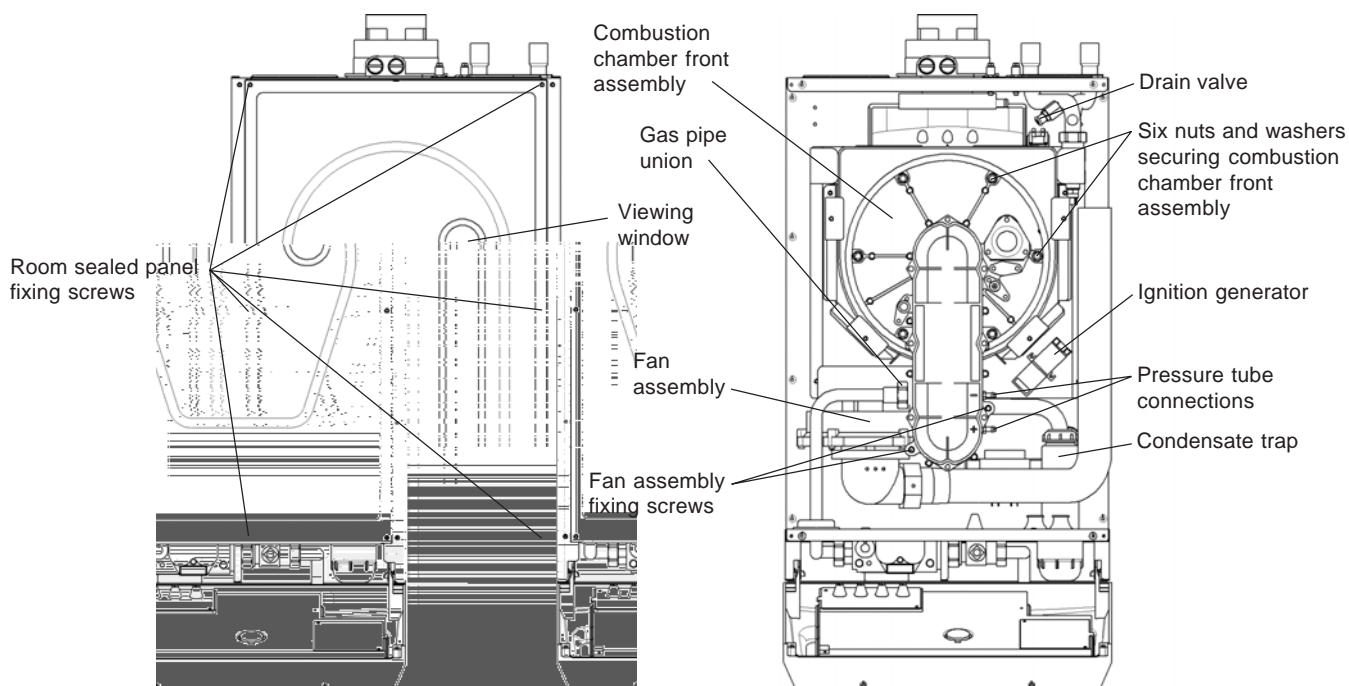

Fig. 25
7.2 PREPARE FOR SERVICING - Fig. 25
8.1 GENERAL ACCESS - Fig. 25
2. Gain access as described in Section 8.1. Connect a hose to the drain valve located in the flow pipe just above the heat exchanger (see Fig. 25) and route it to a suitable container. Open the drain valve.
8.5 BURNER INJECTOR - Fig. 25